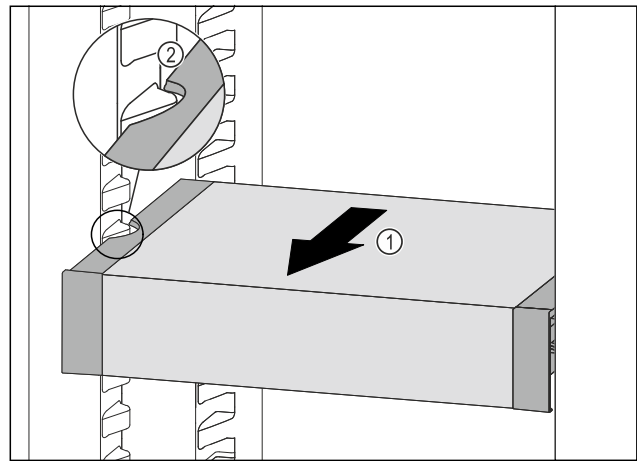

Fig. 91
- ▶ Pull VarioSafe forwards Fig. 91 (1) until the recesses in the side of the VarioSafe are at the level of the support rib in the fridge section. Fig. 91 (2)